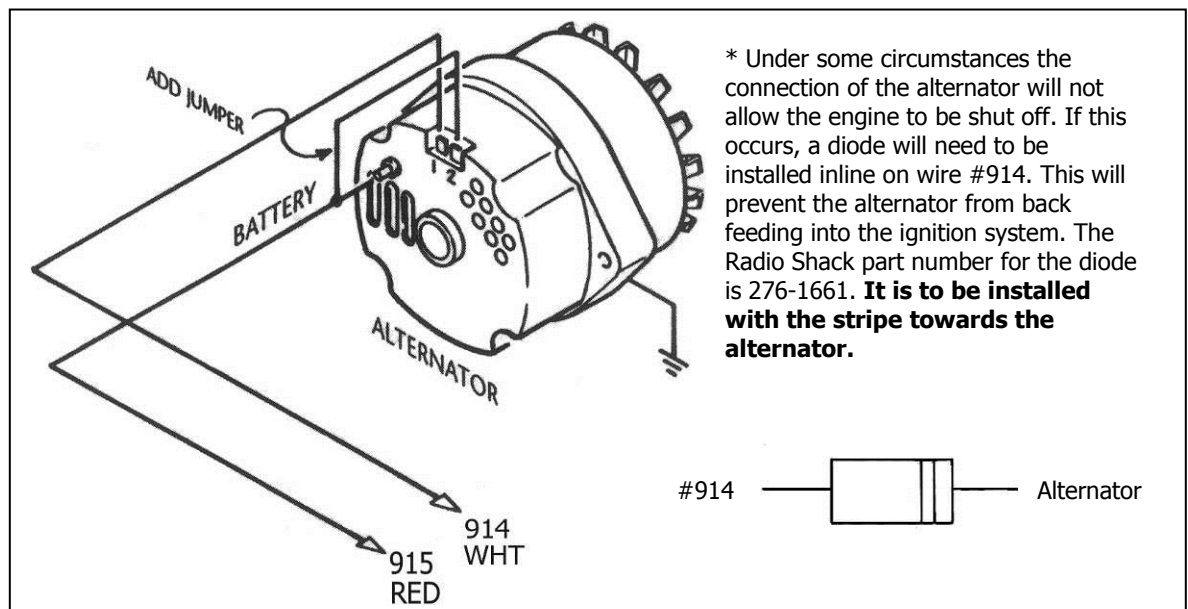

Figure 7-2 Late GM Alternator - Internal Regulator
7.2 Late GM Alternator - Internal Regulator. See Figure 7-2.
** If you do not have a One Wire alternator refer to Figure7-2.